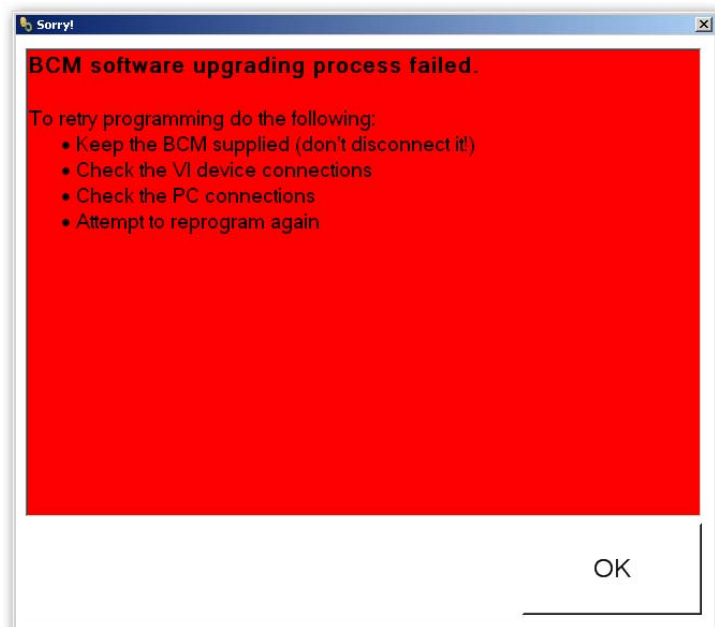

Figure 4
- The reprogramming process will stop and the message in Figure 4 will display.